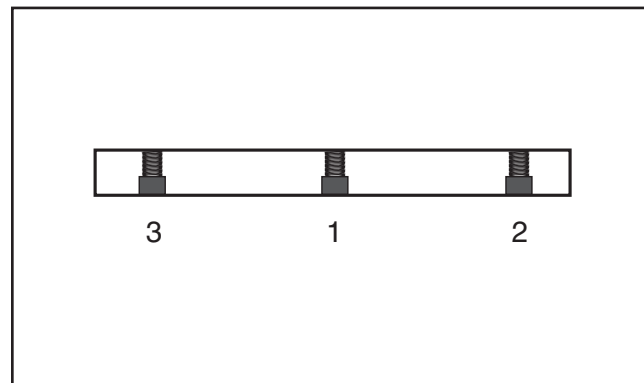

Figure 50. Gib bolt tightening sequence.
8. Rotate the cutterhead to the first knife you started with. Slightly tighten all the gib bolts, starting in the middle and working your way to the ends by alternating left and right (**Figure 50**). Repeat this step on the rest of the knives.